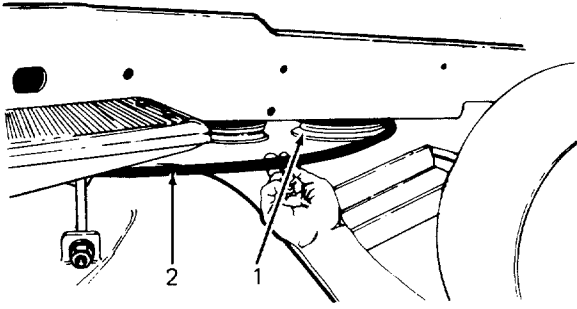

Figure 48
- Slip drive belt over electric PTO pulley on tractor. Refer to Figure 48.